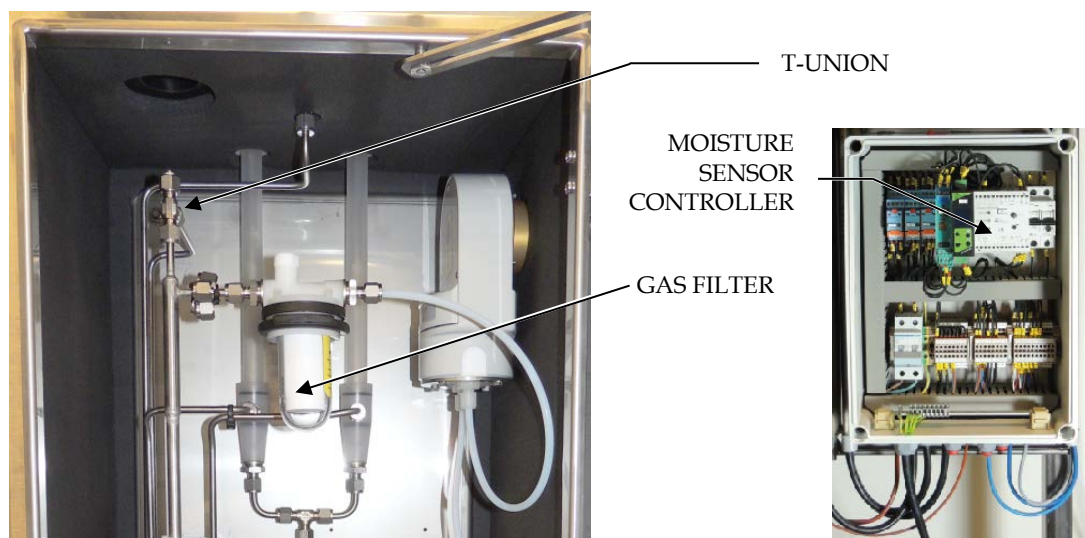

Figure 25 Disconnect heated sample line to make the system analyse ambient air
- 3) Make sure bridge for "RESET ON" is removed. Refer to Figure 25.
- 4) Adjust potentiometer clockwise until moisture alarm is activated (red LED). Refer to Figure 25.
- 5) To adjust the moisture sensor against ambient air, reset the alarm and activate the set point by adjusting the potentiometer $\frac{1}{4}$ turn counter clockwise. Refer to Figure 25. (The red LED is turned off.)